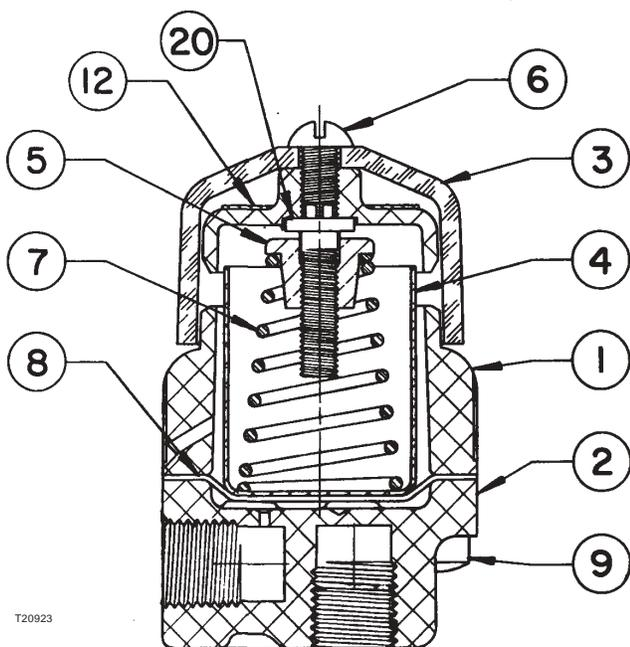

Figure 4. Indicator Assembly Drawing
7. See figure 4. To adjust the indicator remove the screw (6) and the lens (3). Using a small slotted screw driver, turn the adjusting screw clockwise to increase the pressure or counter clockwise to decrease the pressure. The indicator should show red at about 3 psi (0,21 bar) above the new reserve setting. The indicator should show silver at about 6-1/2 psi (0,45 bar) above the new reserve setting.